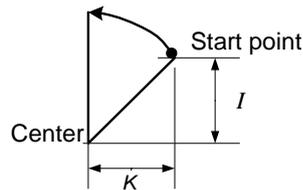

Figure II-6 Center position of circular
- 3 The end point position is specified by address X, Z (absolute value) or U, W (increment value). Arc center can also be specified by I and K; I means X axis distance from the start point to the center of an arc, K means Z axis distance from the start point to the center of a circular as shown in Figure II-6. I and K must be signed according to the direction.